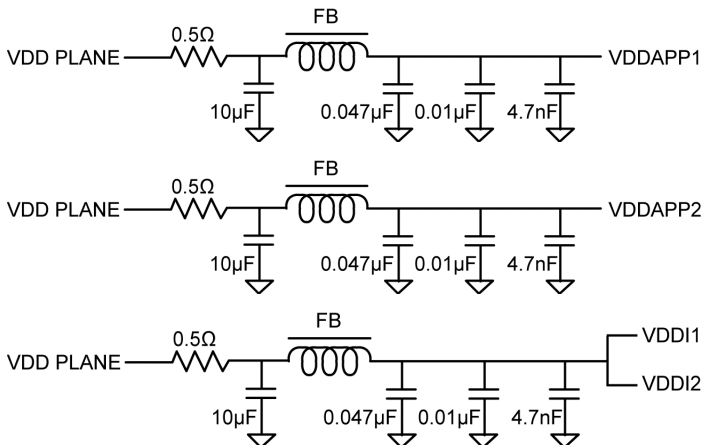

Figure 1. Recommended Power Supply Filtering
- Use the power supply filtering shown in Figure 1 for VDDAP1, VDDAP2, VDDI1 and VDDI2.